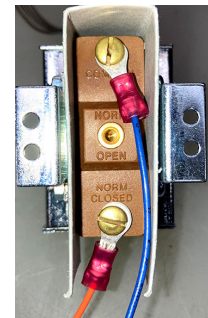

Figure 13
10. Mark and disconnect the wires from the high limit in the control box (see Figure 13).